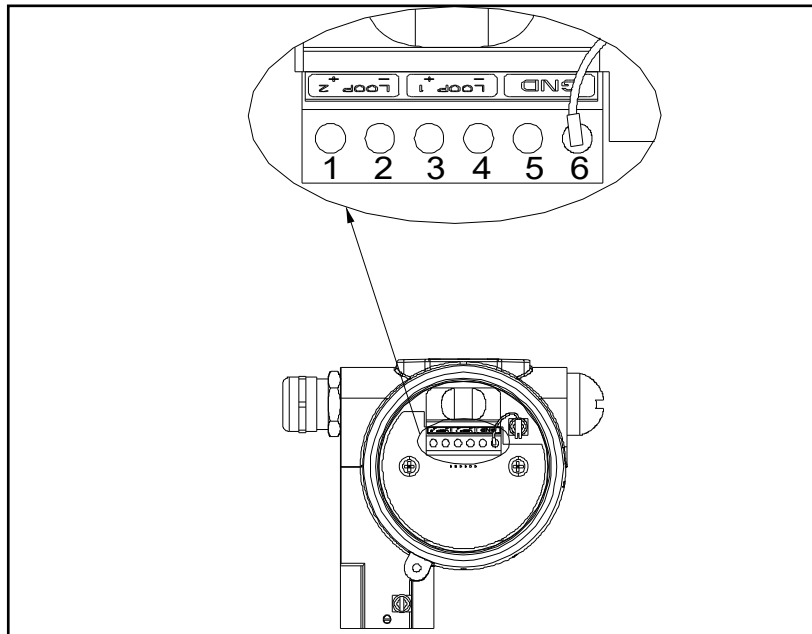

Figure 4: Terminal Block Connections
4. Make connection to the terminal block as shown in *Figure 4* on the next page. Connect the cable as follows: